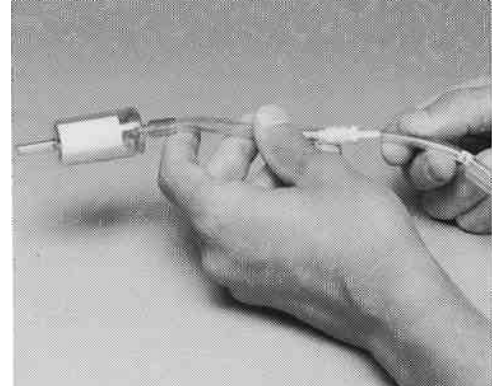

Figure IV-1. Zero-checking the PORTACOUNT
- Step 1.** Attach the supplied HEPA filter to the Sample hose (labelled s) on the twin-tube assembly. The arrow on the filter indicates the direction of flow (fig. IV-1).